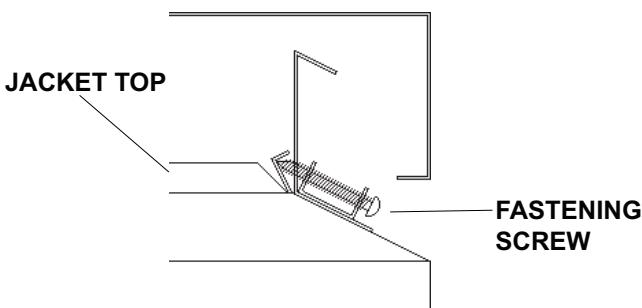

Fig. 7: Installing Outdoor Top Detail—Models 514-824
2. Tighten the (4) screws (as indicated in Fig. 7) until they come in contact with the unit jacket top, then evenly tighten all (4) screws to secure to unit.